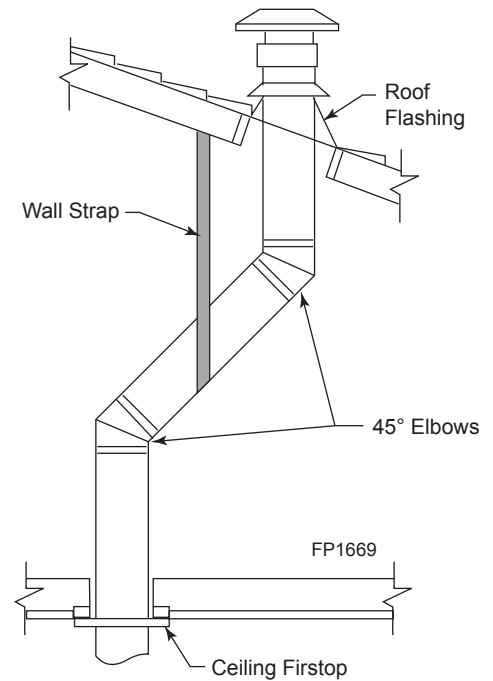

Figure 32 -
1. Determine the route your vertical venting will take. If ceiling joist, roof rafters or other framing will obstruct the venting system, consider an offset. Refer to Figure 32 to avoid cutting load bearing members.